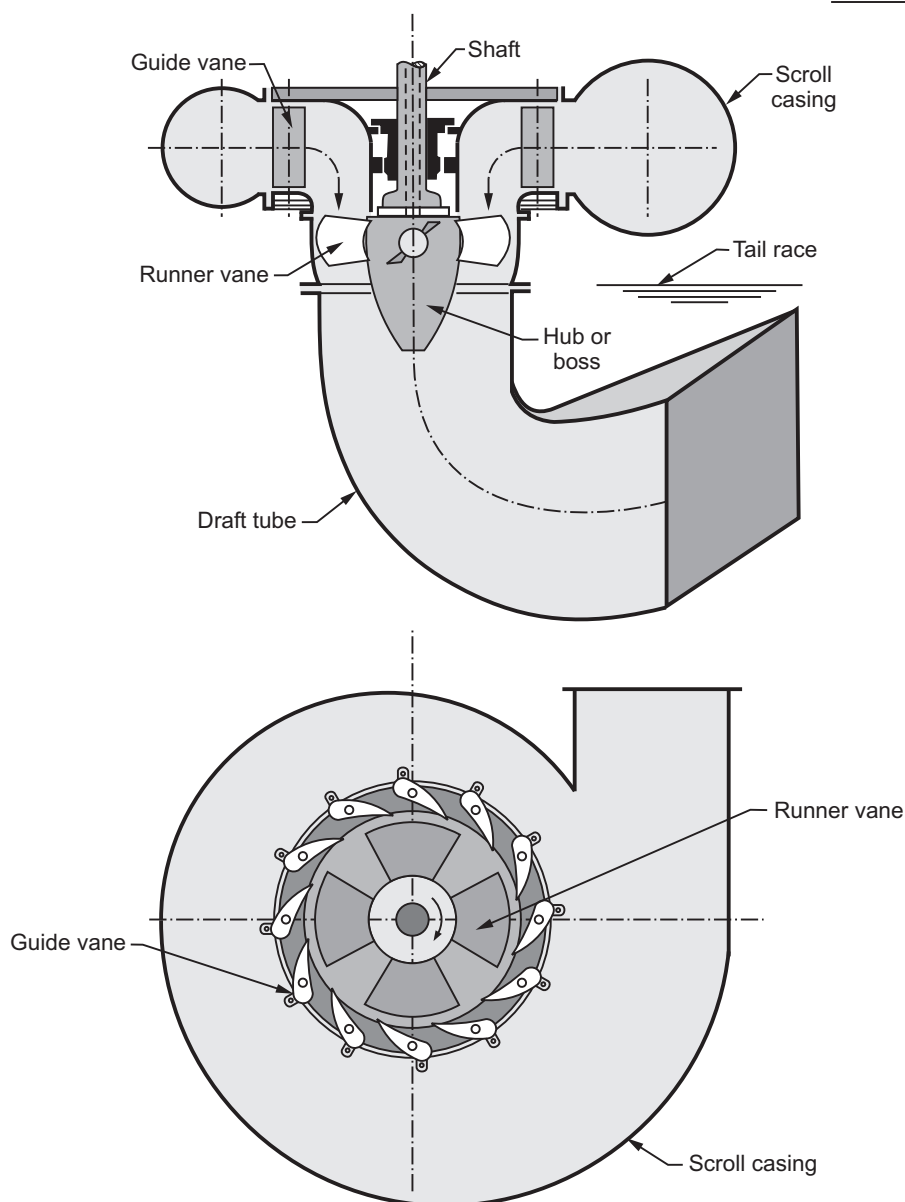

Fig. 3.9 : Kaplan turbine
- Fig. 3.9 shows the arrangement of Kaplan turbine.